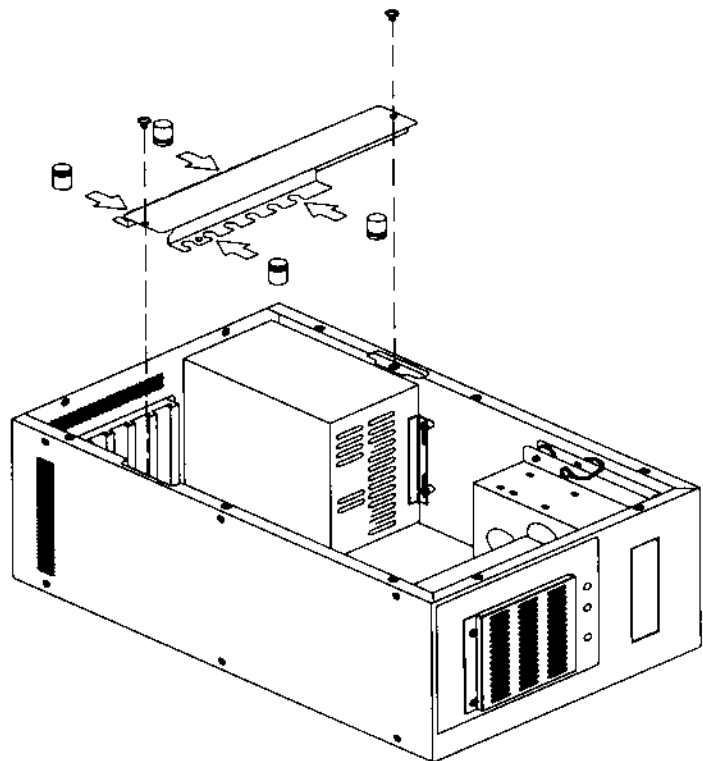

Figure 2-3. Hold-down clamp installation
1. Insert the provided rubber buffers into the hold-down clamp (see Fig. 2-3). Buffers cushion plug-in cards from shock and vibration. They provide two settings:
2. After inserting the rubber buffers, fasten the hold-down clamp to the card cage with the two screws provided (see Fig. 2-3).